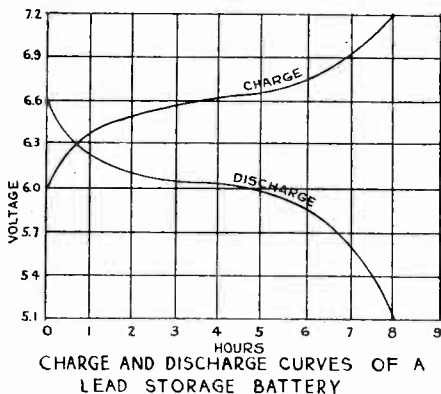

Fig. 47: How the voltage of a storage battery varies during charge and discharge periods.
82. FILAMENT CONTROL: Manufacturers of early tubes found it necessary to employ a current control in the filament circuit of the tube, so that the tube could be adjusted to its most efficient point of operation. It was not practical to use a six-volt filament energized by a six-volt storage battery because the terminal voltage of the battery decreases as it discharges (Fig. 47), consequently the filament would be burning at its proper temperature only